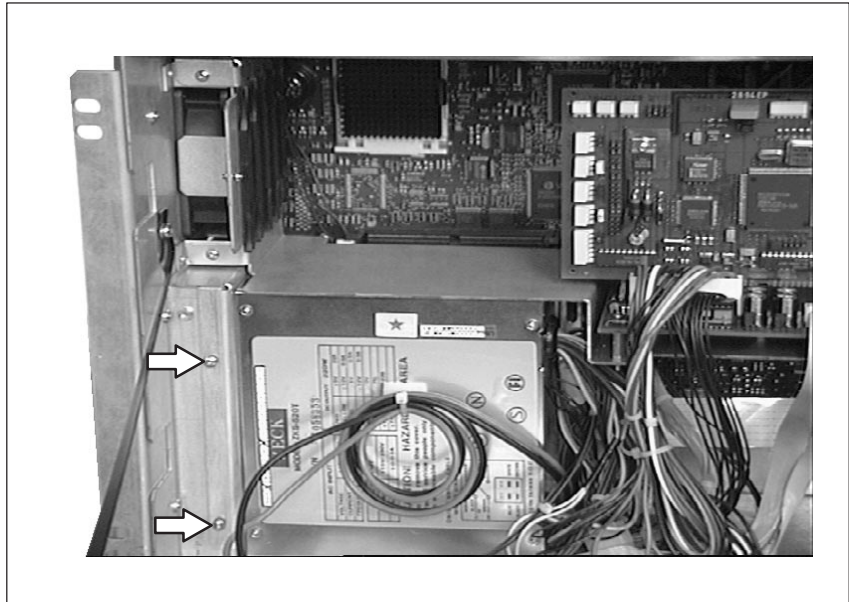

Figure 1-22 Removing the power supply unit
- Release the two screws of the power supply (see figure 1-22).